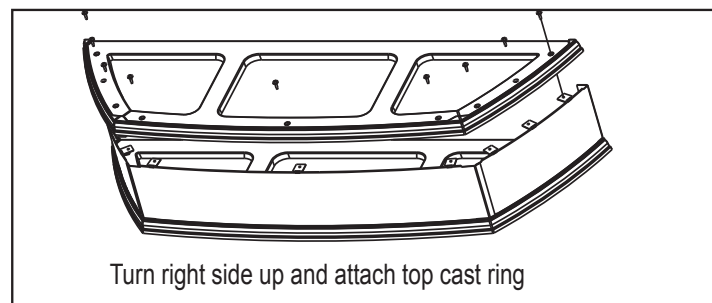

Figure 20.4
5. Now turn the cast ring right side up and attach the top cast ring. Figure 20.4.